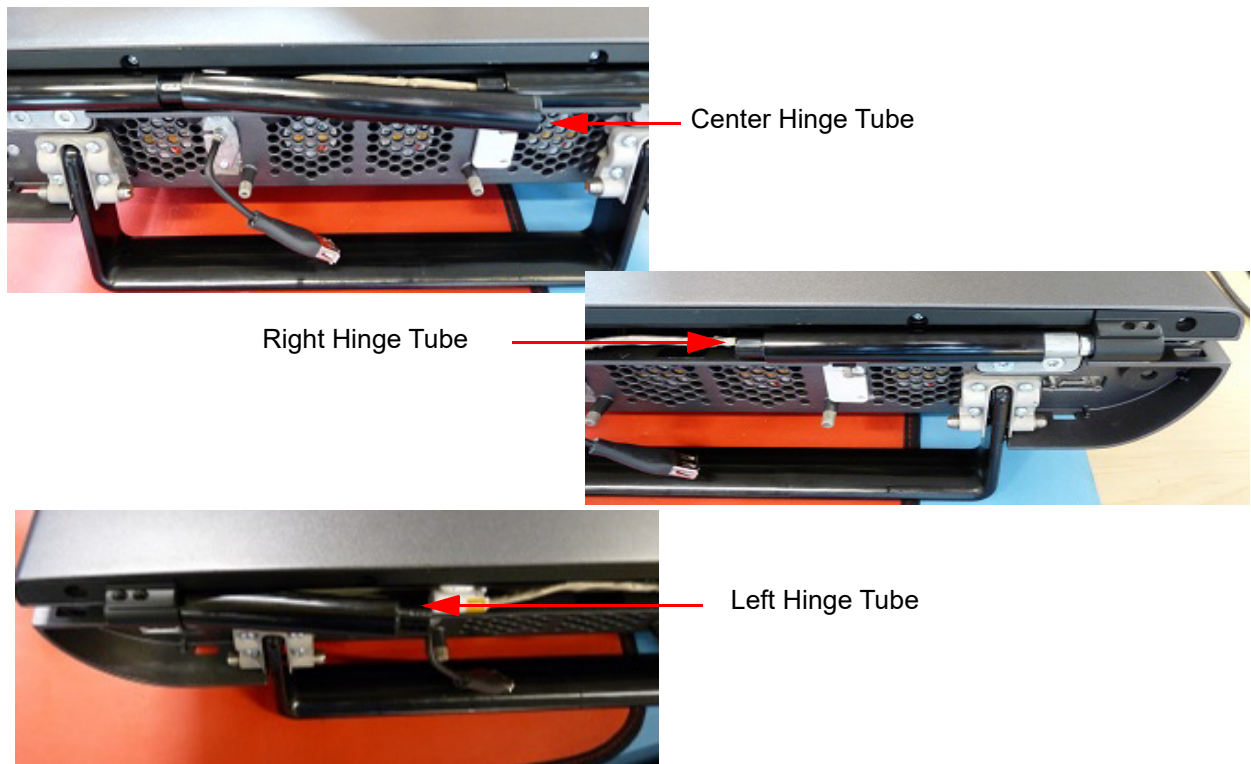

Figure 6.11 Display Hinge Tubes
- 13 The Hinge Tubes can be removed for transfer to a new display if needed per Figure 6.11 on page 54
- 1 Install the left and right Hinge Tubes on new Clinical Display per Figure 6.11 on page 54.